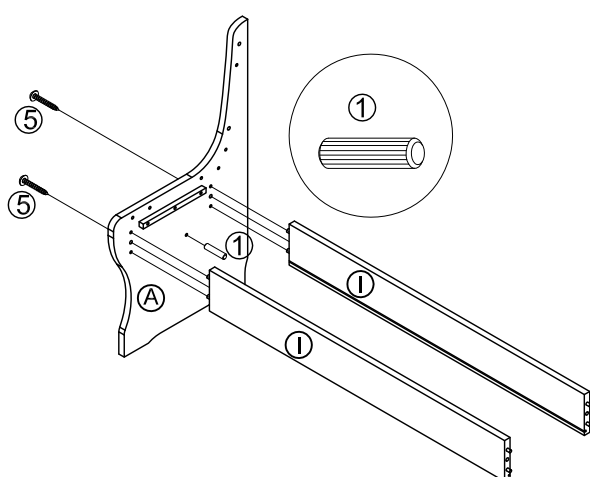

FIGURE 3.1
- 3.1 PLACE MIDDLE LEG #A ON FLOOR. ATTACH DOUBLE BENCH FRONT AND BACK RAILS #I TO MIDDLE LEG #A. USING PRE-DRILLED HOLES AS GUIDE, USING (02) SCREWS ⑤ AND PHILLIPS HEAD SCREWDRIVER (NOT PROVIDED) TO SECURE, INSERT (02) WOOD DOWELS ① INTO HOLES LOCATED ON THE MIDDLE LEG RIGHT #A AND RIGHT OUTSIDE LEG #H. AS SHOWN IN FIGURE 3.1